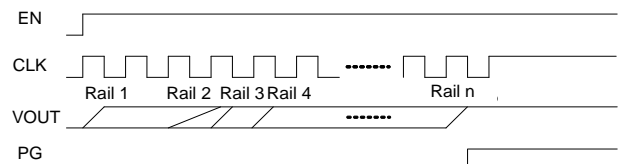
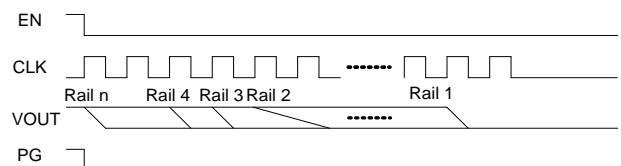

Figure 7: Soft Start when CLK Does Not Pull Down (Not Pausing)
Figure 8 Soft Shutdown when CLK Does Not Pull Down (Not Pausing)
- If CLK_PAUSE_EN = 0, the initiator/target PMIC does not pull the CLK pin down during the soft start/shutdown of any power rails. Figure 7 shows soft start when CLK does not pull down. Figure 8 shows soft shutdown when CLK does not pull down.